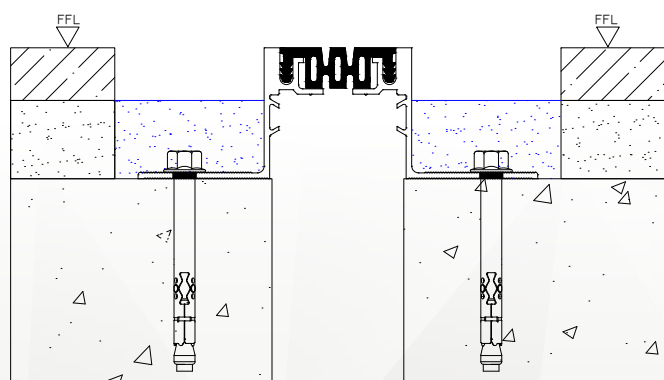

Figure 10.
12. Place masking tape over the top of the joint cover system to protect it during grouting of the blackout. Dam the blackout for grouting. Ensure that the blackout is dammed well so that grout will not leak out of it onto levels below the installation. Place grout (by others) continuously between the base members and the blackout (see Figure 10 & 11).